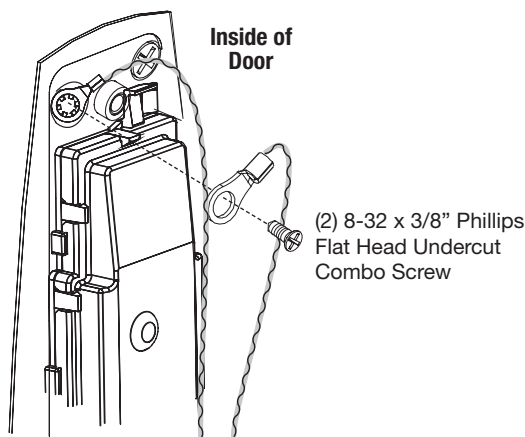

Fig. 10b
- b. Twist into place, perpendicular with door (Fig. 10b).
- c. Position green/yellow ground wire ring terminal (from lock body) over hole for top left screw (Fig. 10b, c).
**IMPORTANT:** Note orientation of ground ring terminals in Fig. 10b, c.